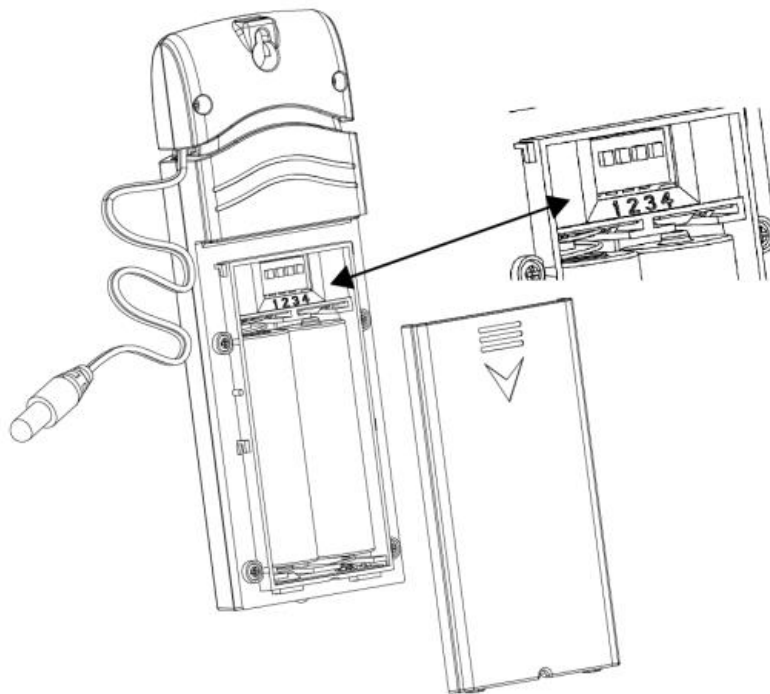

Figure 2
1. Remove the battery door on the back of the transmitter(s) by sliding down the battery door, as shown in Figure 2 .